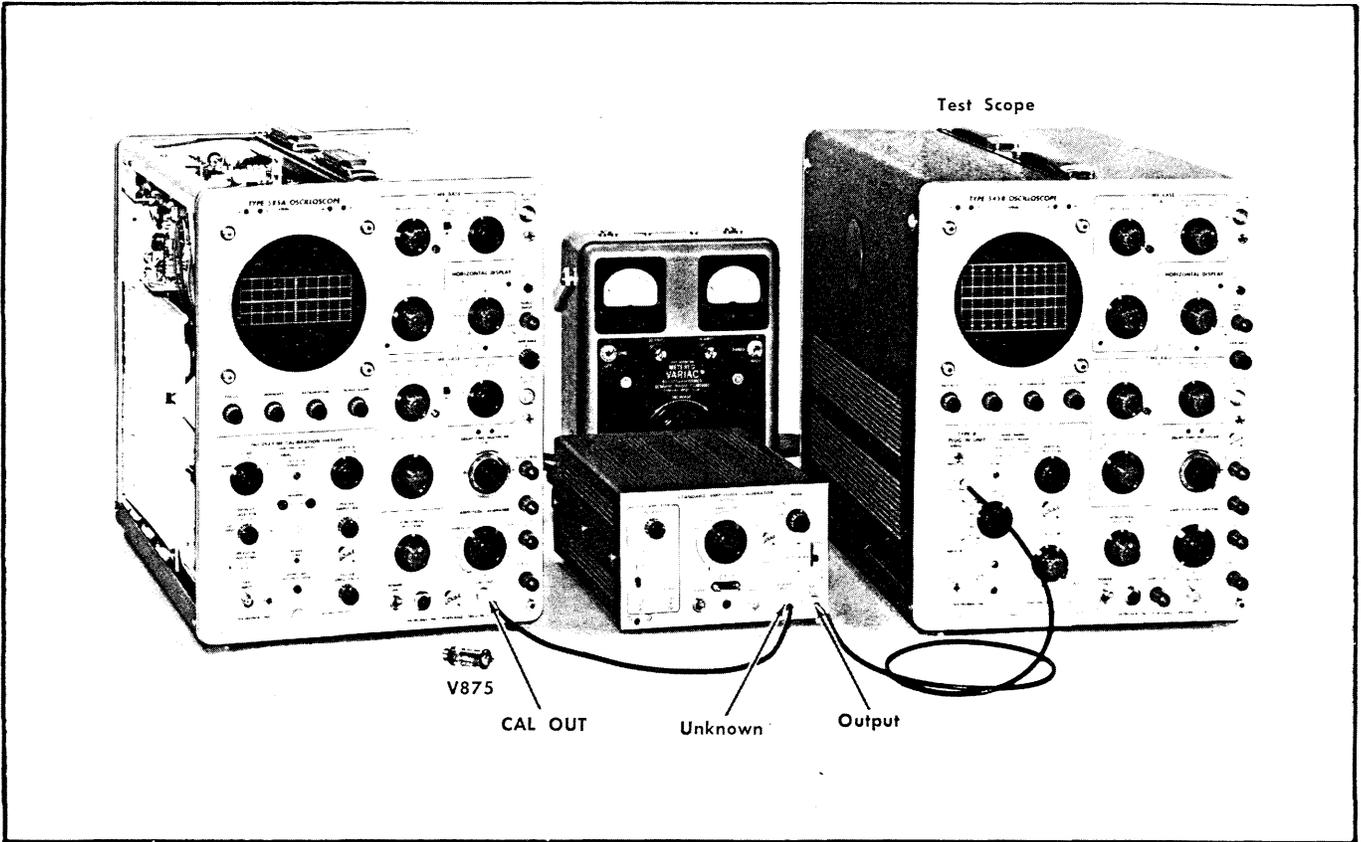

Fig. 6-9. Equipment setup for steps 10 and 11.
- a. Equipment setup is shown in Fig. 6-9.